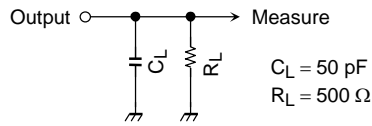

Figure 1
| Maximum clock frequency | f _{MAX} | (Figure 1, Figure 2) | 2.7 | — | — | MHz | |
| Propagation delay time (CK-Q) | t _{PLH} t _{PHL} | (Figure 1, Figure 2) | 2.7 | — | 9.5 | ns | |
| Propagation delay time ($\overline{\text{CLR}}$ -Q) | t _{PHL} | (Figure 1, Figure 3) | 2.7 | — | 9.5 | ns | |
| Minimum pulse width (CK) | t _w (H) t _w (L) | (Figure 1, Figure 2) | 2.7 | 3.3 | — | ns | |
| Minimum setup time | t _s | (Figure 1, Figure 2) | 2.7 | 2.5 | — | ns | |
| Minimum hold time | t _h | (Figure 1, Figure 2) | 2.7 | 1.5 | — | ns | |